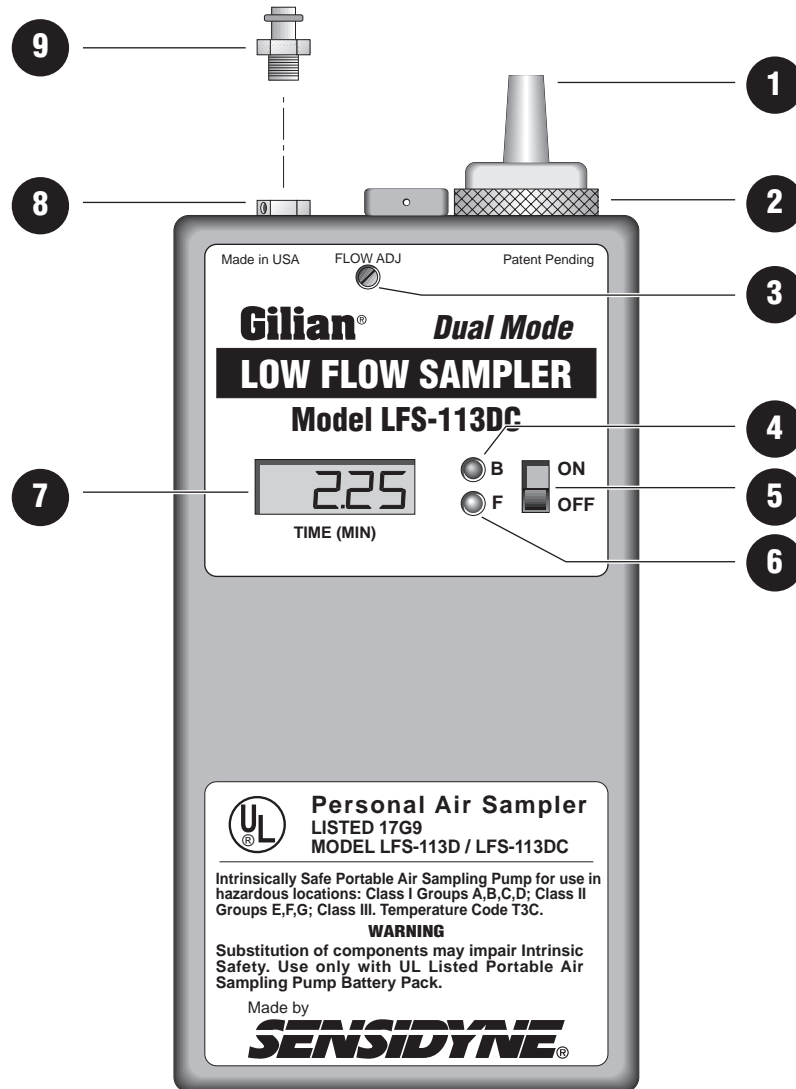

Figure 1.1
- See Figures 1.1 and 1.2
- (1) Inlet Boss
• See Figure 1.1, #1